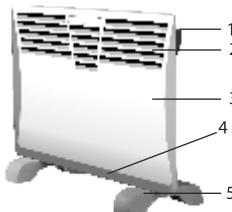

Fig. 3
4. DESCRIPTION OF THE CONVECTOR (FIG.3)